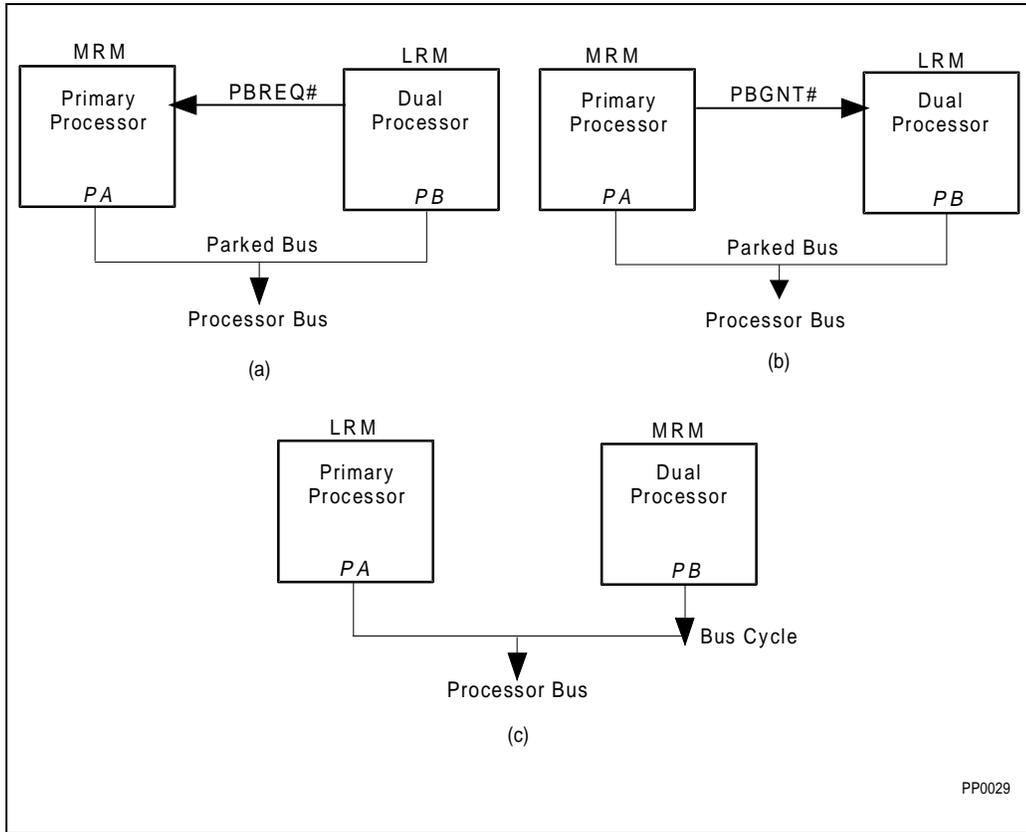

Figure 20-4. Arbitration From LRM to MRM When Bus is Parked
Diagram (a) of Figure 20-4 shows PB requesting the bus from the MRM (PA). Diagram (b) of Figure 20-4 shows PA granting control of the bus to PB. Diagram (c) of Figure 20-4 shows PB, now the MRM, issuing a cycle.